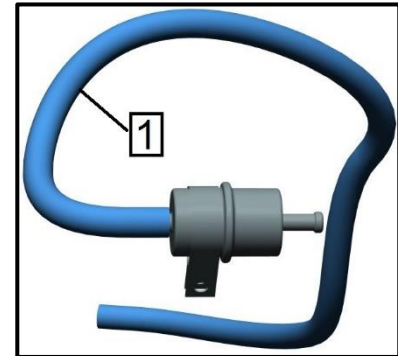

Fig. 19
11. Remove the hose (POS. 1, Figure 19) from the fuel filter connector.